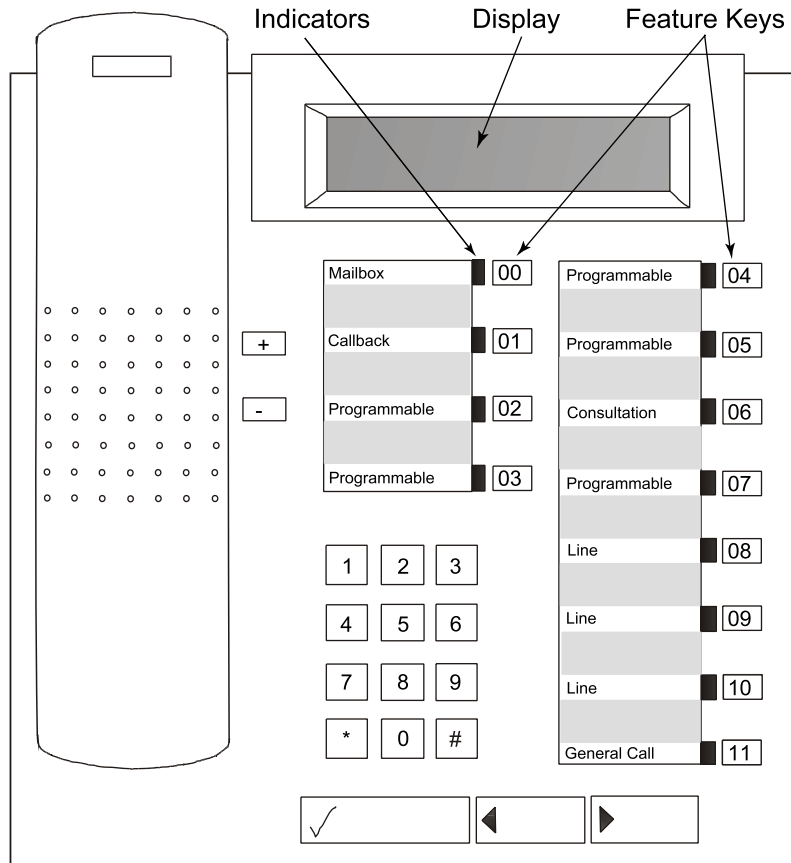
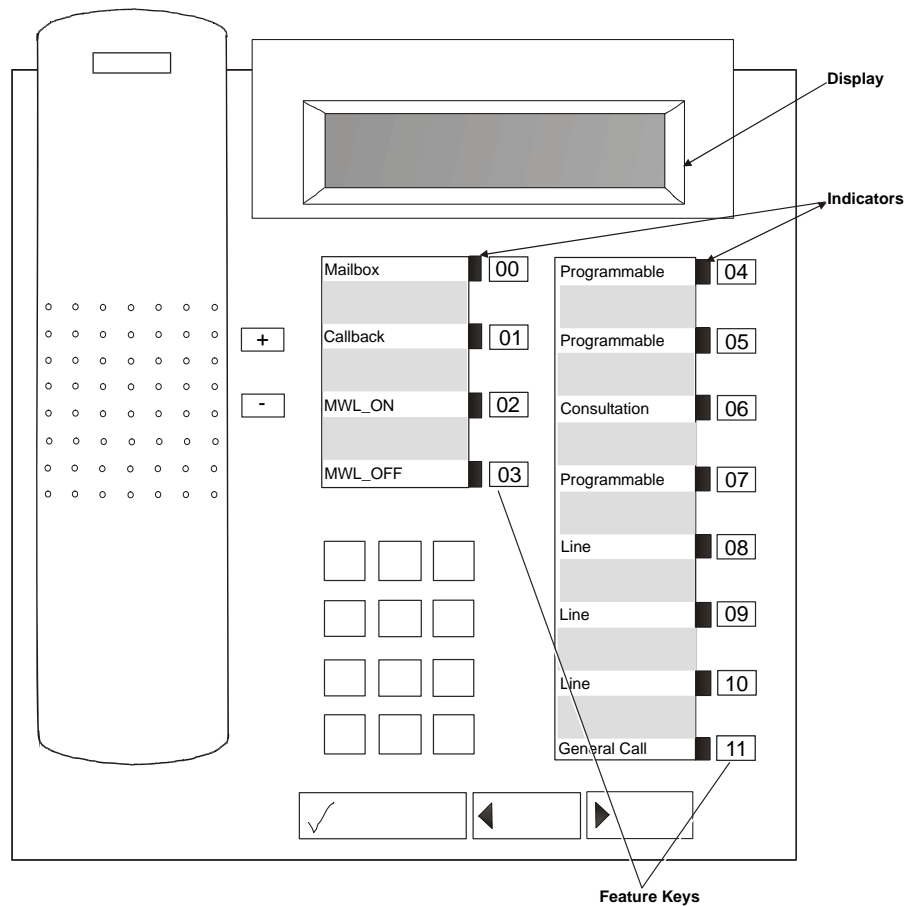

Figure 5. Siemens Optiset E Telephone with the Hicom 150
Figure 6. Siemens Optiset E Telephone with the Hicom 300
When the Hicom 150 is used with Optiset E phones (see Figure 5), special PBX programming is required. The keys should be programmed as shown in Figure 5. If these keys are not programmed in this way, loop current detection, CPID, the & (transfer) key, and message waiting will not work.
When the Hicom 300 is used with Optiset E phones (see Figure 6), the top two programmable keys (Key 00 and 01) on the left must be programmed as Mailbox and Callback, respectively. Key 02 must be configured to dial the **message waiting lamp on** (MWL_ON) string. Key 03 must be configured to dial the **message waiting lamp off** (MWL_OFF) string. This programming allows an application to use the specified dial string to turn the MWL on and off. In addition, Key 07 must be programmed as the Consultation (transfer) key. Keys 08-12 must be programmed as Line keys, with Key 12 programmed as the General Call Key, which provides the off-hook indicator. Refer to Figure 5 and Table 11 for specific Key locations and set-up requirements.
7. Press Key 02 (third from the top left, see Figure 6 below) to set the dial string for MWL_ON.
The PBX integration board performs functions available to a Optiset E telephone set (see Figure 5 and Figure 6). An Optiset E telephone set uses an LED displays to show key status (next to the keys) and user prompts and messages on the display to provide various options. The PBX integration board can:
As illustrated in Figure 5 and Figure 6, there are 12 Programmable Feature Keys located below the display on the Optiset E telephone. These keys are configured either during PBX installation or by the user (using the telephone set or the PBX integration board). There is an LED Indicator associated with